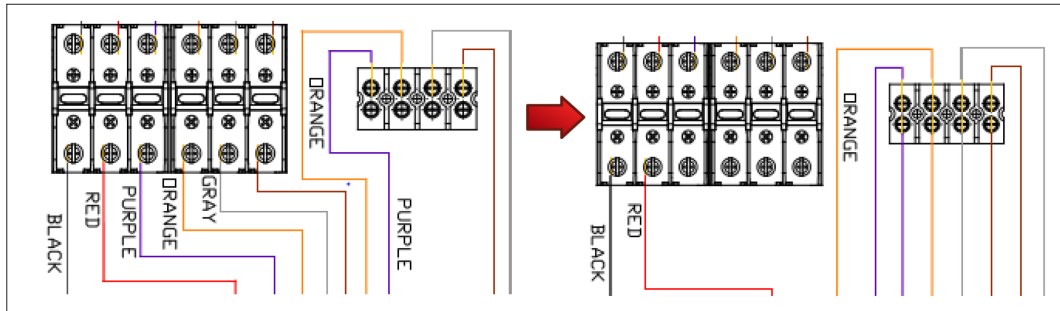
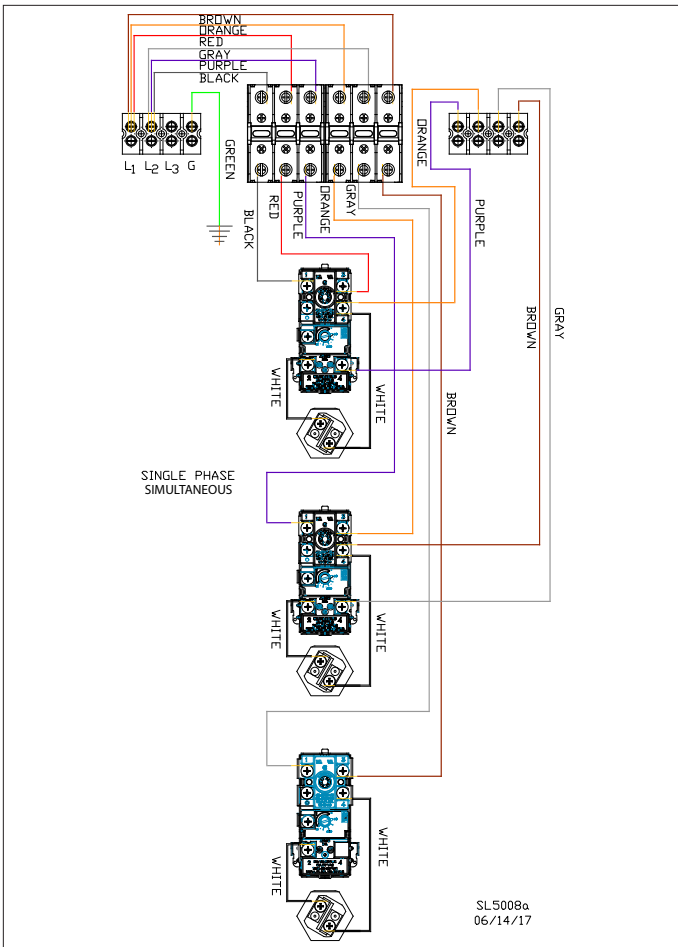
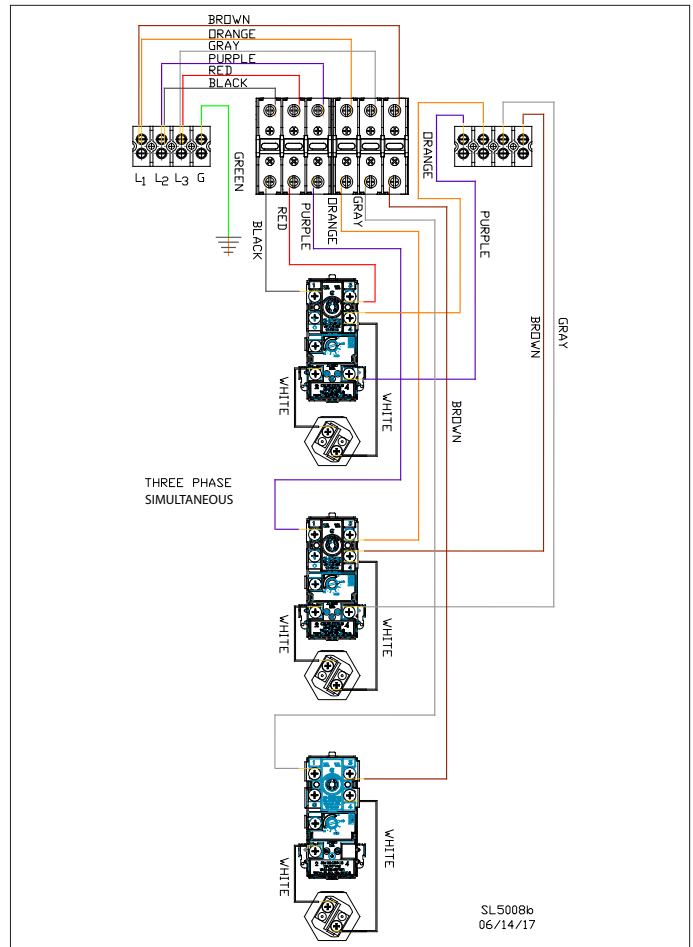

Figure 5 - Converting from Simultaneous to Non-Simultaneous Operation
Figure 7 - Factory Wiring - Single Phase, Simultaneous Operation
Figure 8 - 3 Phase, Simultaneous Operation
The water heater ships ready for Single Phase, Simultaneous operation. Figure 7 details this configuration. This factory installed wiring and operation configuration may be converted to meet custom installation conditions. Figures 8 - 10 detail these optional configurations. These optional configurations include: 3 Phase Simultaneous, 3 Phase Non-Simultaneous, and Single Phase Non-Simultaneous. Conversions MUST BE PERFORMED by a Qualified Service Technician.
5. Tighten screws to securely hold wires. Be sure not to place wire insulation under screws. See Figure 5. See Figures 8 - 10 for optional configuration wiring details.